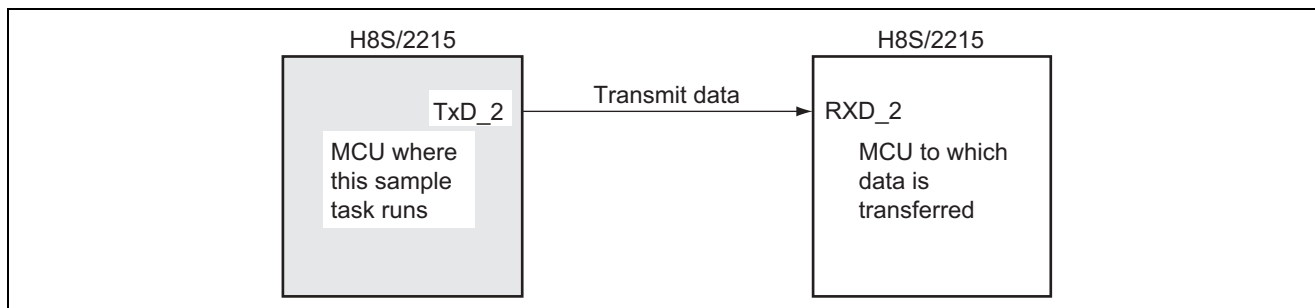

Figure 1 Serial Data Transmission in Asynchronous Mode
1. Eight characters (bytes) of data are transmitted using the serial data transfer function in asynchronous mode as shown in figure 1.